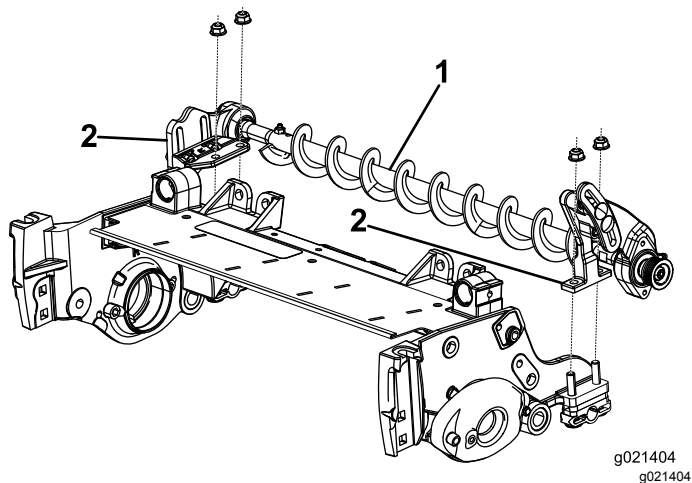

Figure 13
18. Position the left or right roller brush assembly mounting brackets onto the roller bracket bolts (Figure 13).